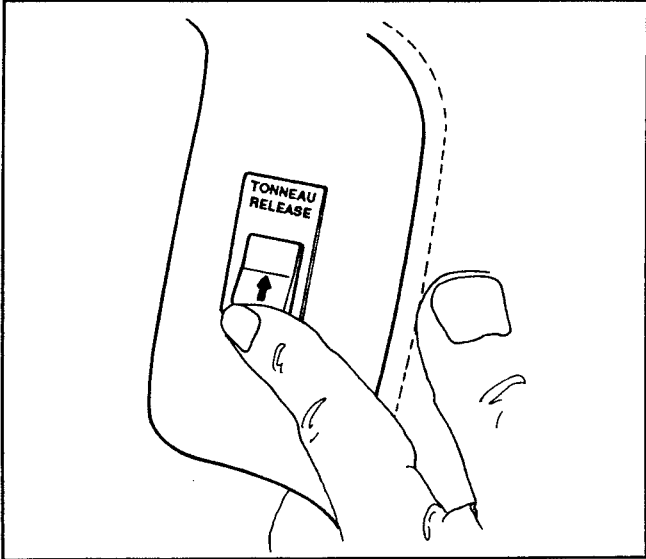

Figure 15. Activate Stowage Release Switch
1. Place the transaxle in Park and the ignition in Run. Activate the stowage panel release switch (Fig. 15). Be sure the deck lid is closed.